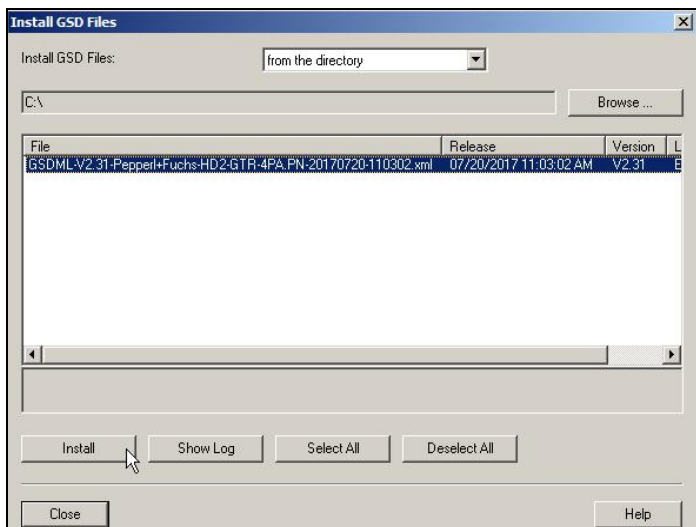

Figure 19: Installing the GSDML file
- 7) Search of the GSDML file with **Browse...**, then select **Install** (see: Figure 19: Installing the GSDML file).